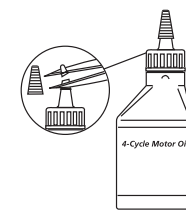

Fig. 4
This unit is supplied with one 2.03 fl.oz. (60 ml) bottle of SAE 30 SF, SG, SH oil (Fig. 4).
- Unscrew the top of the bottle of oil and remove the paper seal covering the opening. Replace the top and cut the tip off the funnel spout (Fig. 4).